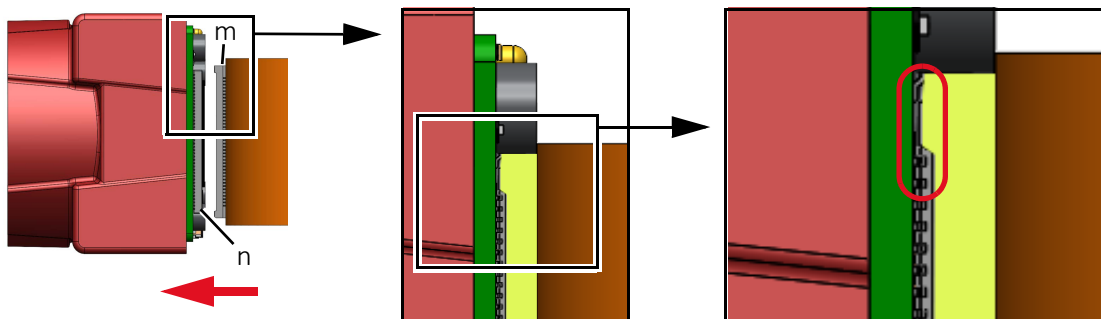

Figure 62: Connecting the interface unit to the sensor unit
3. Connect the cable side FPC connector (m) of the interface unit to the camera side FPC connector (n) until it clicks. Now, connector (m, light green in Figure 62) is in touch (red oval) with the camera board surface.